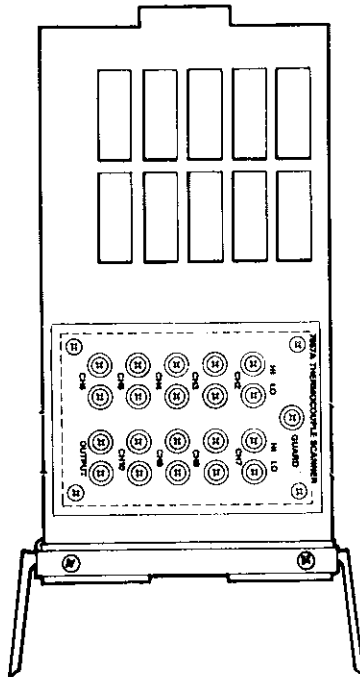

Figure 1. Typical Thermocouple Connections.
- A. Input and output connections are made to the screw terminals shown in Figure 1.